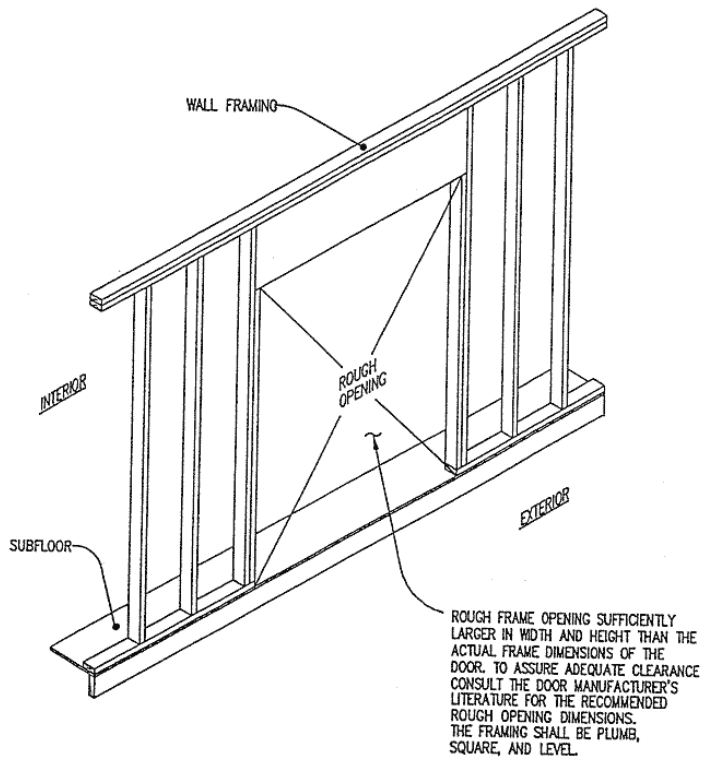

Fig. 1. Rough Door Opening
5.1 **Framing Requirements** - The rough framed opening to receive the door shall be sufficiently larger in width and height than the actual frame dimensions of the door. To assure adequate clearance, the framer shall consult the manufacturer's literature for the recommended rough opening dimensions. The framing shall be plumb, square and level, (See Figure 1). In addition, the condition of the area where the sill is to be installed shall be level, flat and free of voids, holes, chipping, or other conditions which will not allow for sealant to maintain continuous contact (See Figures 2 & 3).